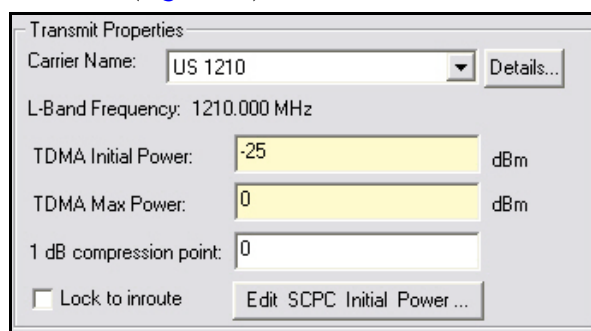

Figure 50. iBuilder Remote Information Tab: Setting TDMA Initial and Max Power
3. On the Information tab of the Remote dialog box, scroll down to the Transmit Properties area of the Information tab (Figure 50).
4. Set TDMA Initial Power (Figure 50) to 2 dB to 3 dB above the transmit power observed in iMonitor. (See “Determining the Remote’s Initial Transmit Power” on page 65.)